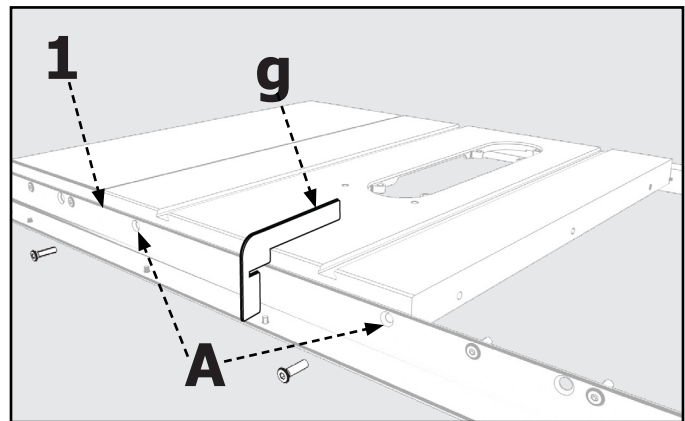

FIGURE 3
1. With the left edge of the Front Guide Rail (1) near the edge of the Left Extension Wing, align the Two Holes in the table with the Two Holes in the Front Guide Rail, as indicated at location "A" in **Figure 3**.